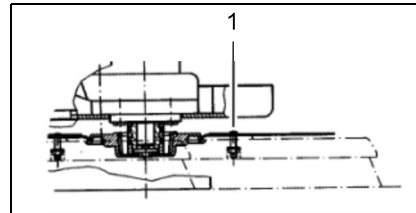

Fig. 6
The brush locks, supplied loose in the vehicle's accessories kit, must be assembled on the brushes in accordance with Figure 6/1.
2. Slide the brush under the brush head in accordance with Figure 6.